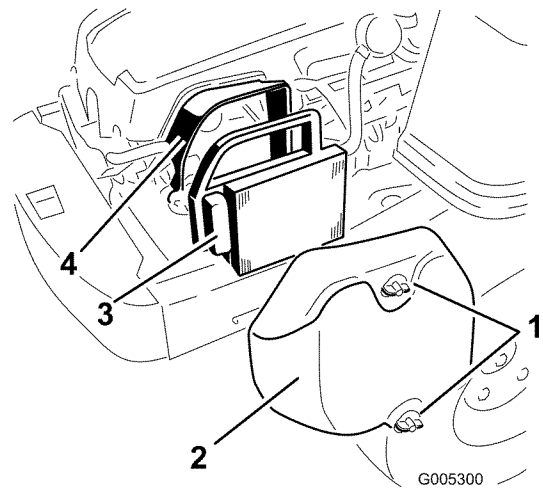

Figure 23
1. Remove the air cleaner cover (Figure 23).
2. Remove the air cleaner element with the integral rubber seal (Figure 23).
- Install the air cleaner element with the pleated side “out” and seat the rubber seal onto the edges of the air cleaner base (Figure 23).
- Reinstall the air cleaner cover and secure with the two knobs (Figure 23).